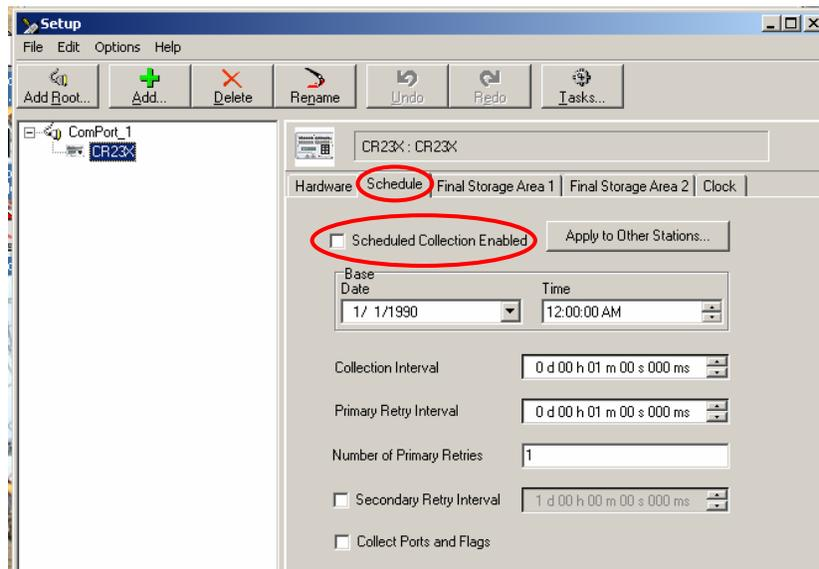

Figure 5
- b) Under the **Schedule** tab, uncheck the **Scheduled Collection Enabled** box. Leave all other settings as they are (Figure 5).